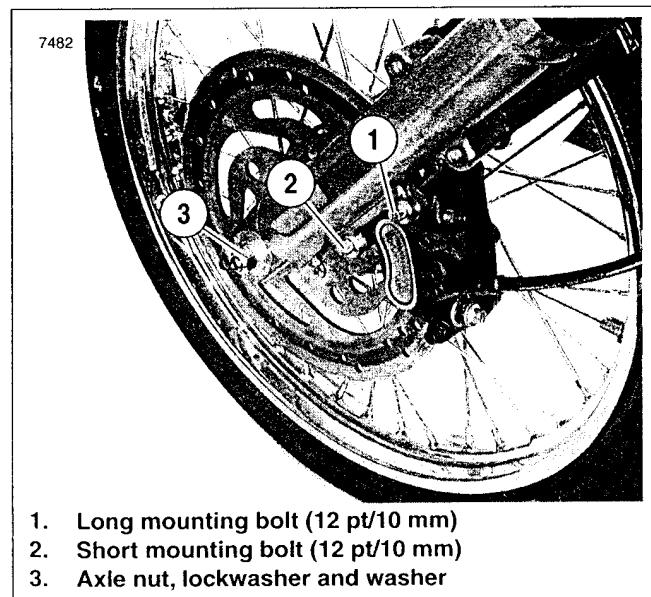

Figure 2-3. Caliper Mounting Bolts (Left Side)
- See Figure 2-3. Remove brake caliper(s). Support caliper(s) using a rubber bungee cord.
6. See Figure 2-3. Install the brake caliper to the fork legs.
- a. Loosely install long mounting bolt (1) (12 pt/10 mm) into top hole on fork leg.
- b. Install short mounting bolt (2) (12 pt/10 mm) into bottom hole on fork leg. Tighten bottom mounting bolt to 28-38 ft-lbs (38.51.5 Nm).